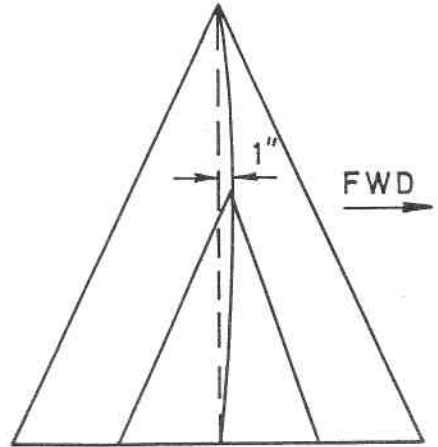

Fig. 7 - Bowed
- 6 Tension the aft lower shrouds equally to reduce the bow to 1" (see Fig. 7).